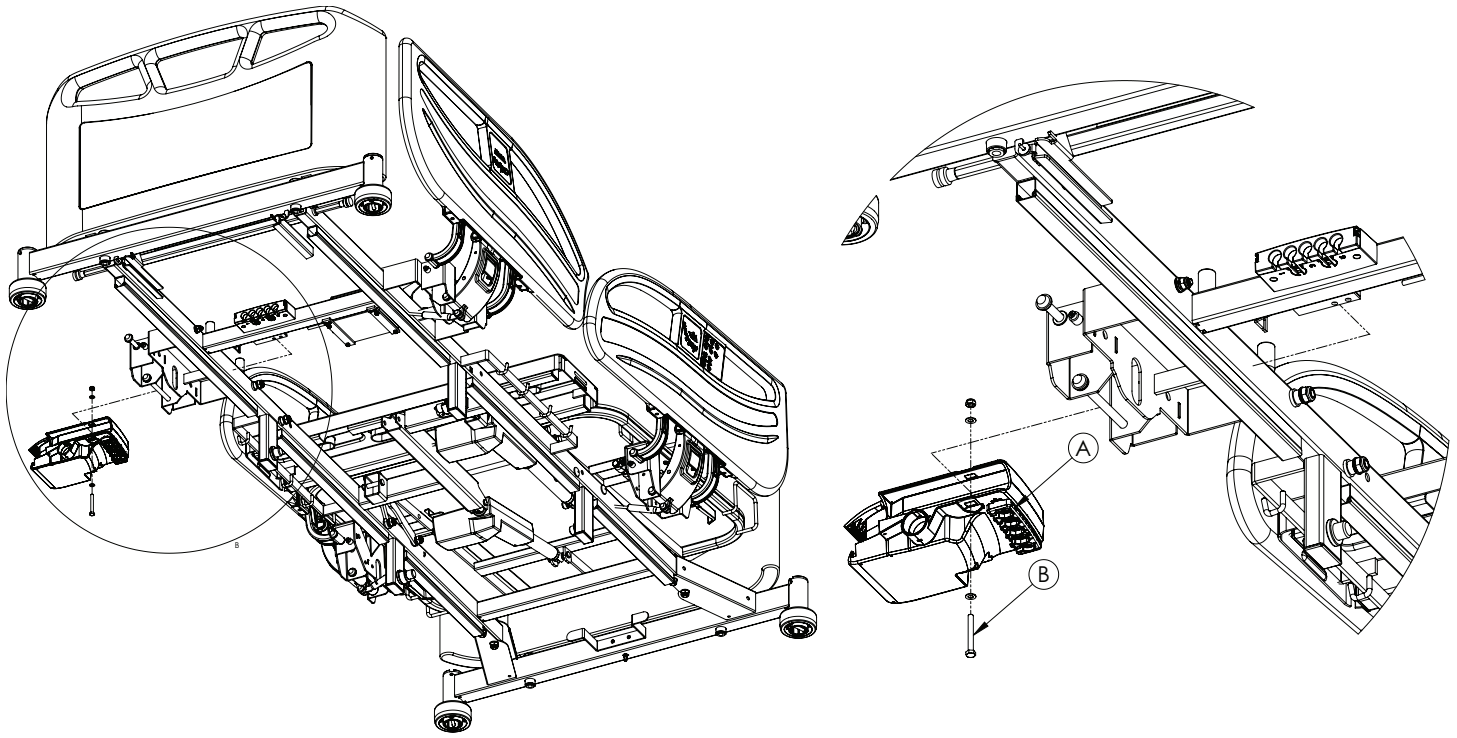

Figure 13 – Control box
6. Using a small flat screwdriver, un-clip the actuator cable retainer (A) from the control box (Figure 13).
11. Using a 10 mm combination wrench and a 10 mm socket, remove the bolt (B) that secures the control box to the litter frame (Figure 13).